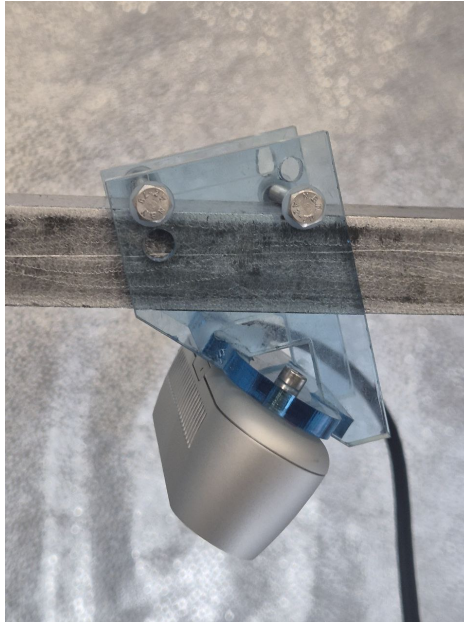

Figure 5: Camera holder
- The camera is mounted at an angled perspective using a holder secured with two screws—one at the inner top and the other at the outer bottom for capturing **depth variations**(Figure 5). Both screws must be in contact with the horizontal bar to ensure a consistent and repeatable camera angle, thereby maintaining a reliable and accurate imaging perspective.